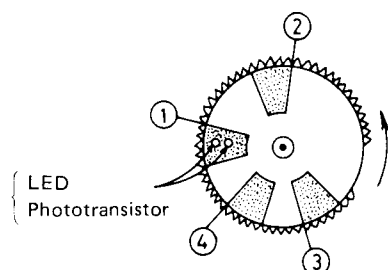

Fig. 3
1. When the mechanism operating button is pressed (power ON), the solenoid is energized, thus attracting the locked pause arm by spring ①.
2. When the drive gear is released from the pause arm it is slightly turned clockwise by spring ②. At this time, the drive and flywheel gears engage with each other to transmit the motive power for the switch-over operation.
**NOTE:** The flywheel gear, driven by the capstan motor by a belt, is already rotating when power is ON. Fig. 3 shows the rear side of the drive gear. Here, a change from black to silver zone is photoelectrically detected by a LED and phototransistor.